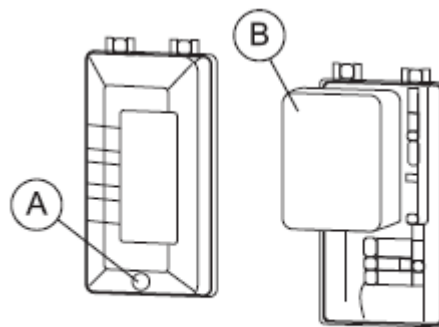

Figure-13 Air Filter Assembly
- Unscrew the filter attachment screws (A). **See Figure-13.**
- Carefully remove the pre-cleaner and wash it with liquid detergent and water. And then Squeeze dry in clean cloth (DO NOT TWIST). (B). **See Figure-13.**